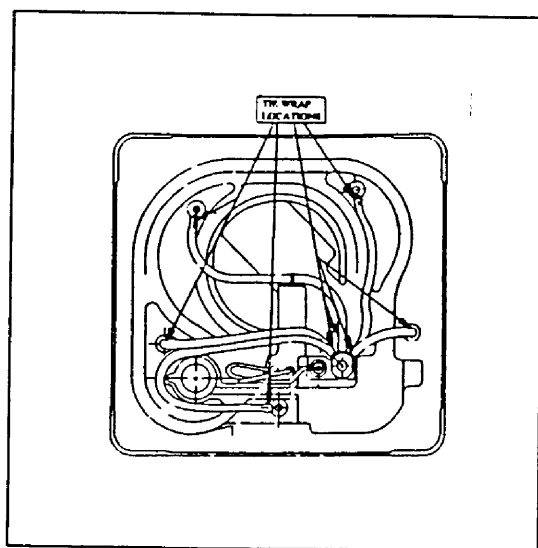
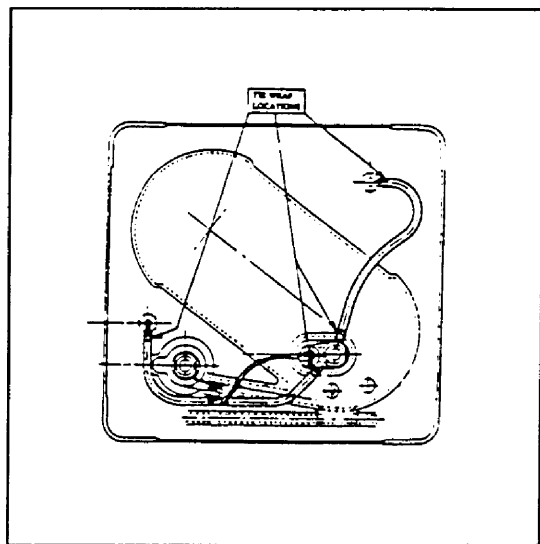

Figure 1
Figure 2
During an installation or service visit, all adapter trays should be located and modified per this TIN. The modification requires that the ends of every green hose on the bottom of the tray be secured to the barbed fitting with a tie wrap (p/n 400001). Refer to the instructions and Figures 1 and 2 below to modify the trays:
2. Place a tie wrap (p/n 400001) around each green hose approximately 1/8" to 1/4" from the end of the hose. Refer to Figure 1 for placement on the Flexible Tray (5 - hoses, 10 - tie wraps) and Figure 2 for placement on the General Tray (2 - hoses, 4 - tie wraps), on page 2. INSURE TIE WRAP IS AROUND HOSE BARB.